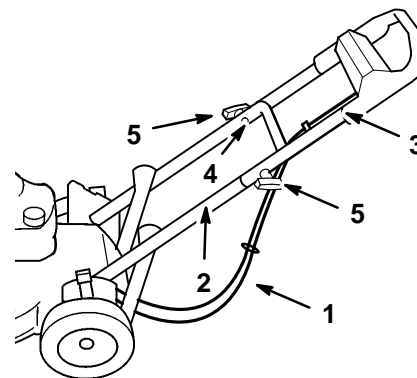

Figure 5
4. Slide the upper handle section ends over the lower handle so that the sections nest together (Fig. 5)
5. Ensure that the cables are routed below/behind the lower handle as illustrated in Figure 5.
6. Secure the upper handle to the lower handle using two contoured handle bolts and two knobs (Fig. 5).